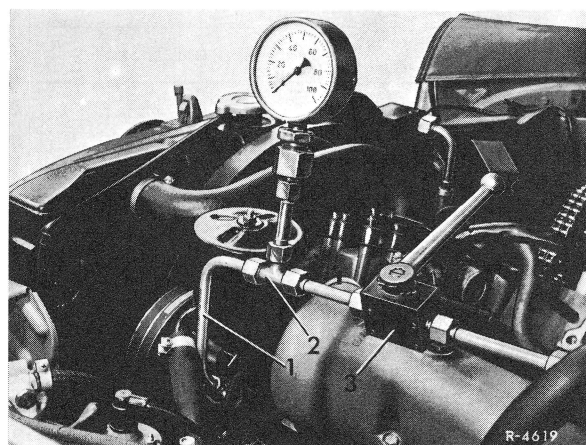

Fig. 2
2 Unscrew high-pressure expanding hose on power steering pump and connect testing device (2). Open throttle valve (3) on pressure gauge (Fig. 2).